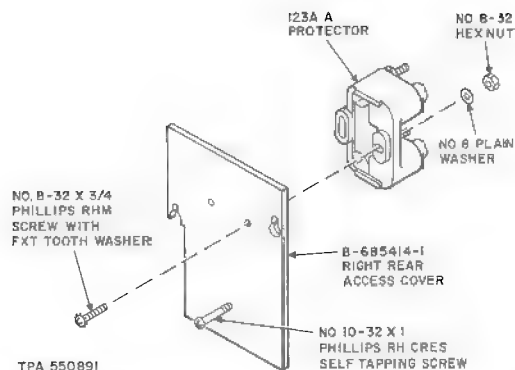

Fig. 23—Assembly of 123A1A Protector on Right Rear Access Cover
4.21 To replace old stationary access cover with new detachable access cover (Fig. 23), perform following operations.
- (e) Install protector on new access cover per Fig. 23 using hardware retained in (d).
- (f) Install a 10-32 by 1 Phillips RH CRES self tapping screw per Fig. 23. This screw serves as a handle.